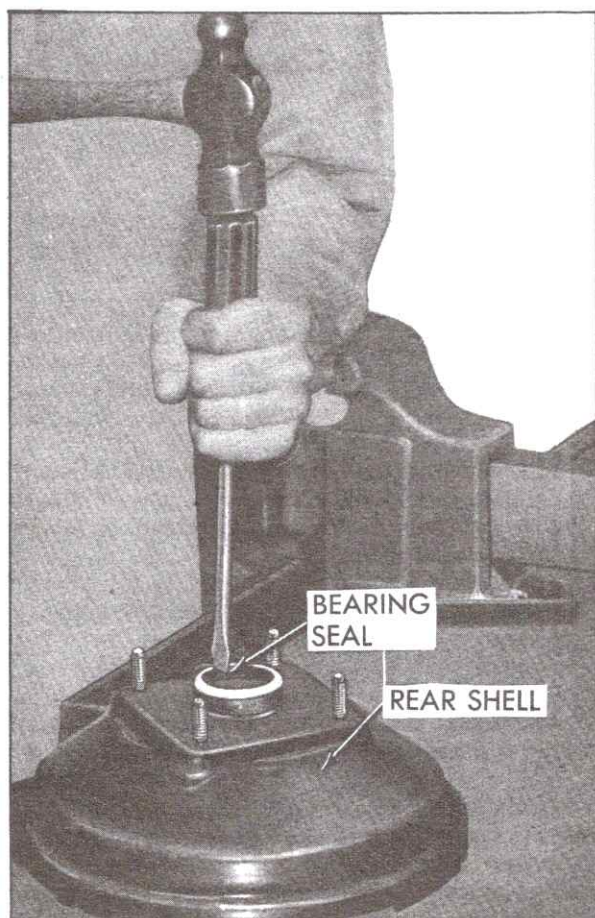

Fig. 5-23 Removing Bearing Seal from Rear Shell
14. Place rear shell on bench with mounting studs up, and drive out bearing seal with screwdriver or punch, Fig. 5-23.